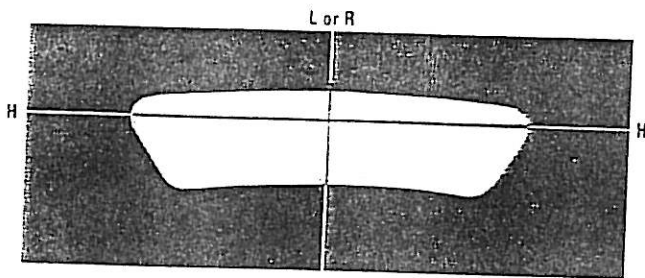

Fig. 6
- UK and European main beam Fig. 6